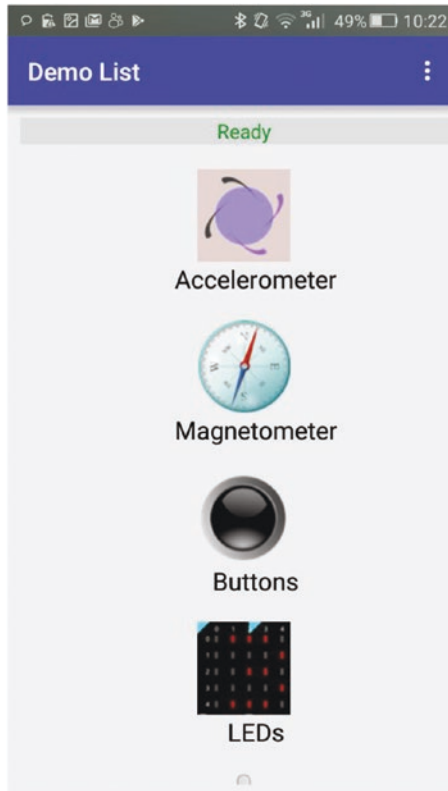

Figure B-25. Demo list
1. Under the Demo list, tap LEDs (see Figure B-25).